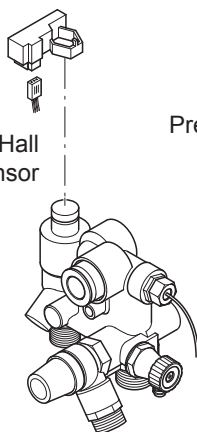

Fig. 10
6. Disconnect the wiring from the Hall Effect Sensor, DHW NTC and Water Pressure Switch (Figs. 10 & 11). Retain the Hall Effect Sensor.